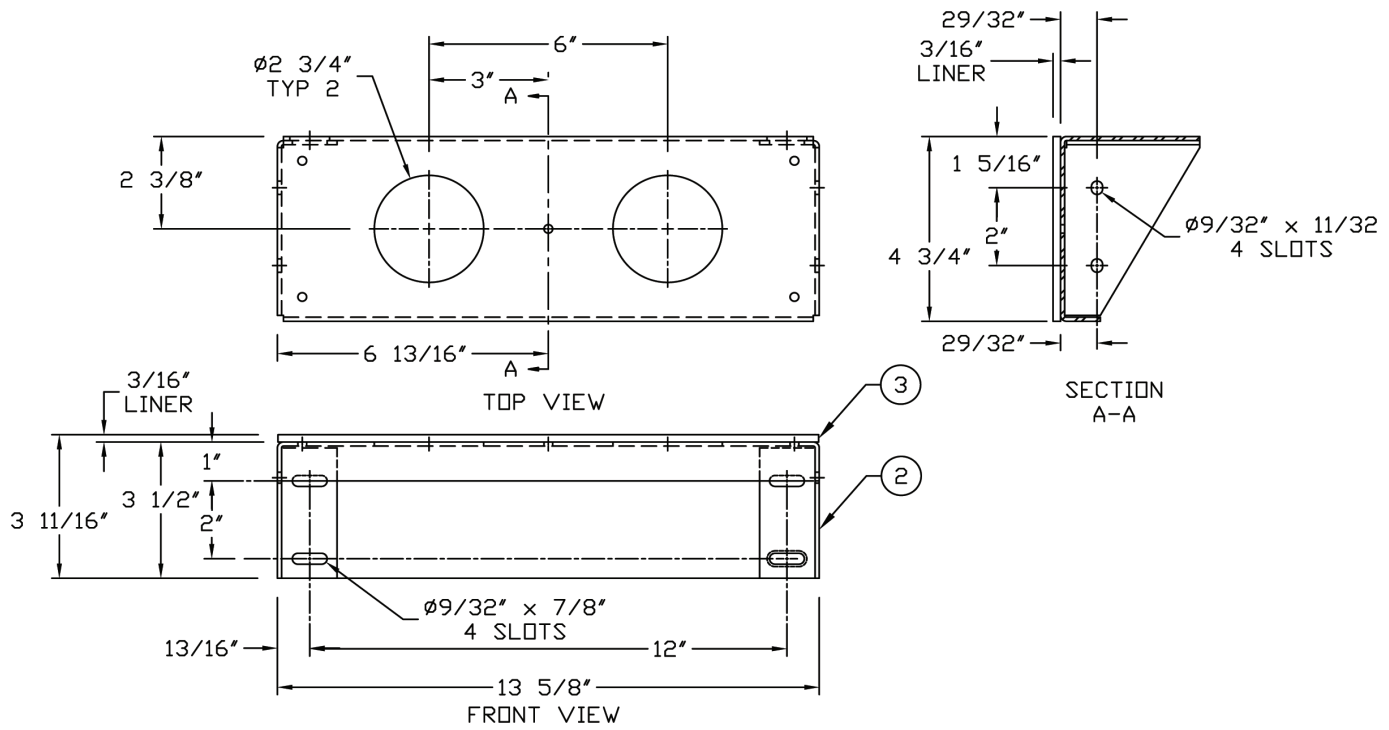

Figure 2 - Base Dimensions
2. Figure 2 shows the overall size and dimensions for the Strut Bracket Base (2) and Liner (3).